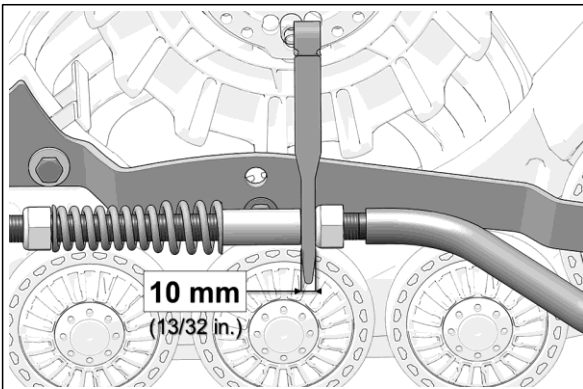

Figure 12
- **IMPORTANT:** Double-check 10 mm minimum distance between nut and stabilizing arm guide. Re-adjust as needed. See Figure 12.